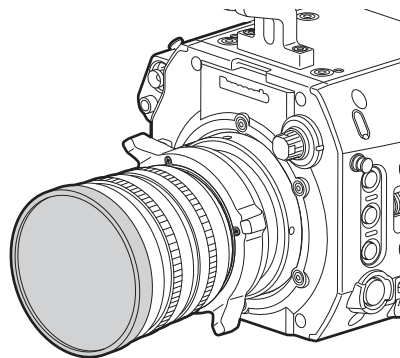

Fig. 2
- 2** Align the convex portion at the upper right of the lens mount with the concave portion at the lens mount to mount the lens. (Fig. 2)